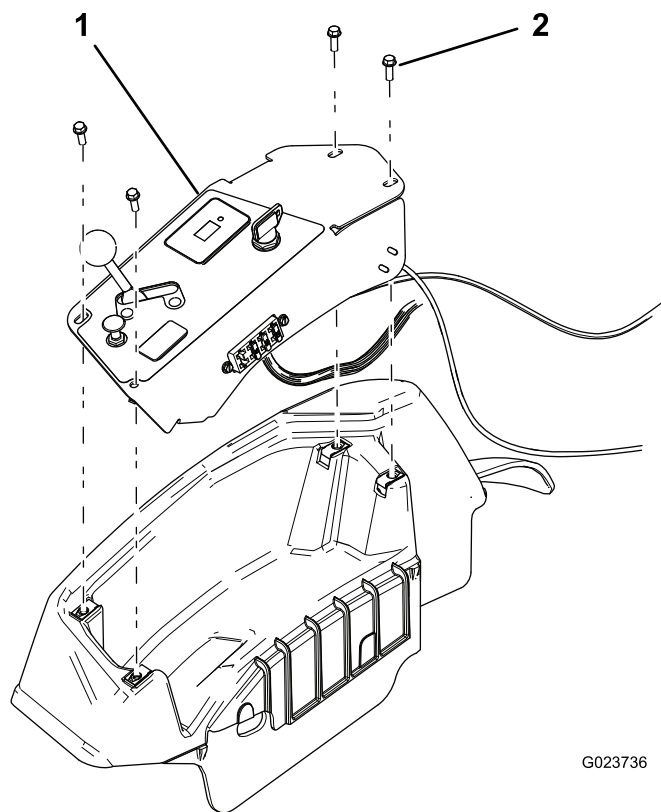

Figure 27
2. Remove the control panel (Figure 27).